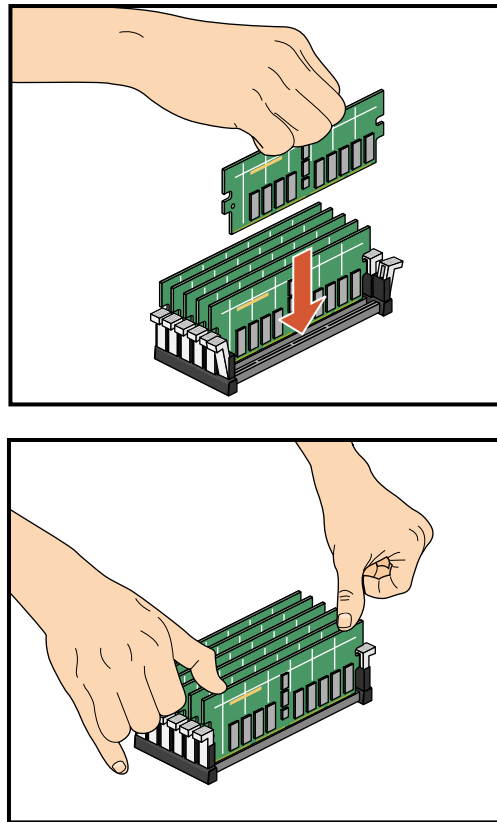

Figure 4-31 Inserting a DIMM
6. Install the DIMMs, as follows (see Figure 4-31):
- e. When the DIMM is fully seated in the connector, the ejector latches snap into place flush with each end of the DIMM, see Figure 4-31.